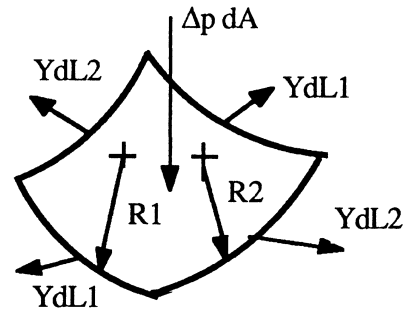

Fig. 1.9c
**1.63** Derive Eq. (1.37) by making a force balance on the fluid interface in Fig. 1.9c.